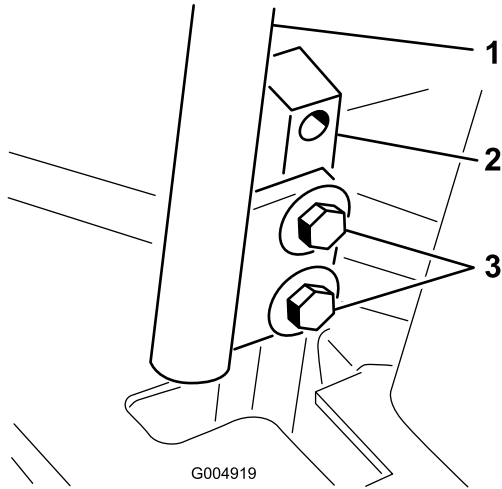

Figure 77
3. Loosen the bolts securing the control levers (Figure 77).